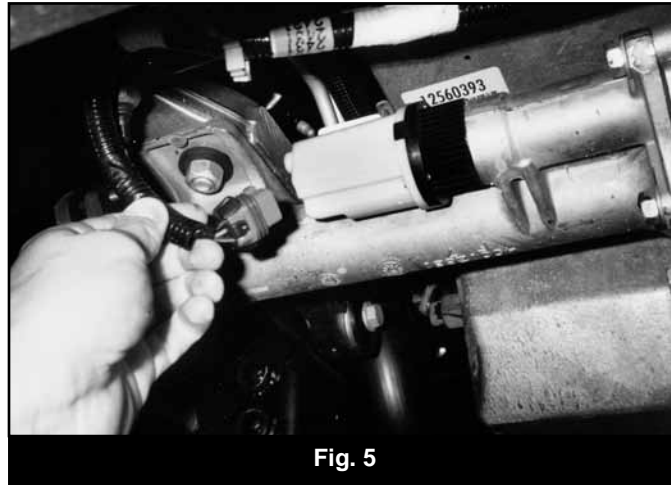

Fig. 5
22. Disconnect the electrical connector running to the differential housing (Fig 5). Remove the two retaining clamps holding the wire to the housing. Remove the vacuum line from the differential housing.